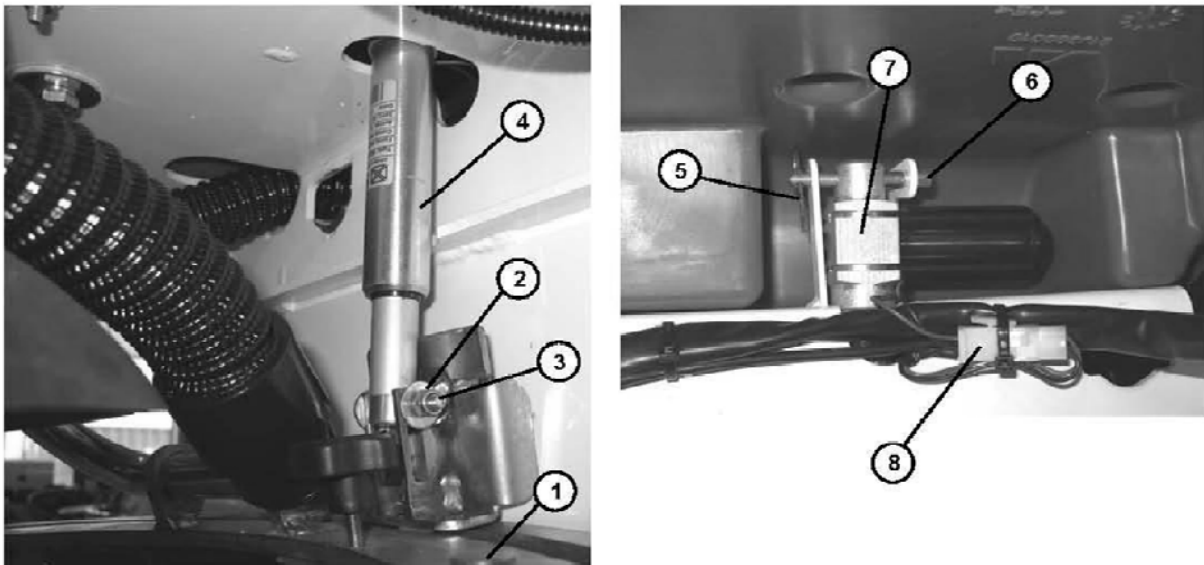

Figure 8-9
4. Operating on the squeegee (1, **Figure 8-9**) unscrew the nut (2) and remove the screw (3) with a retaining washer, lower squeegee actuator rod (4).
5. Operating on the machine's controls as instructed in the User and Maintenance Manual, operate the squeegee's lift control, so as to raise the rod (4) (to facilitate the subsequent removal of the actuator). Turn the ignition key to the "0" and take it out.